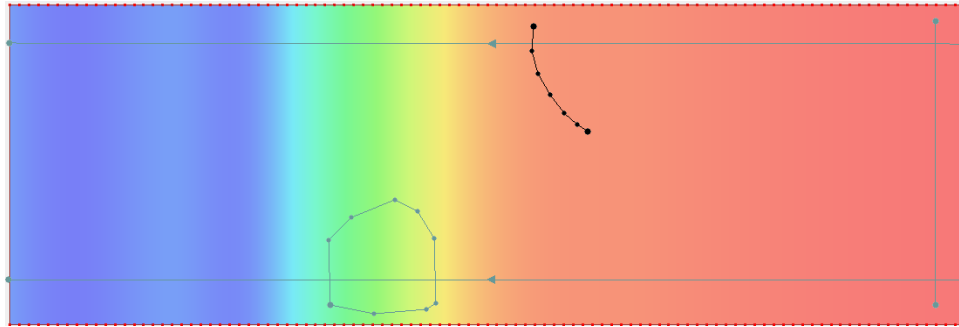

Figure 11 Arc for a reef or buoy probe, crossing the upper transect
- Using the **Create Feature Arc**  tool, create an arc in the area where the manually place probe is desired, as shown in Figure 11.